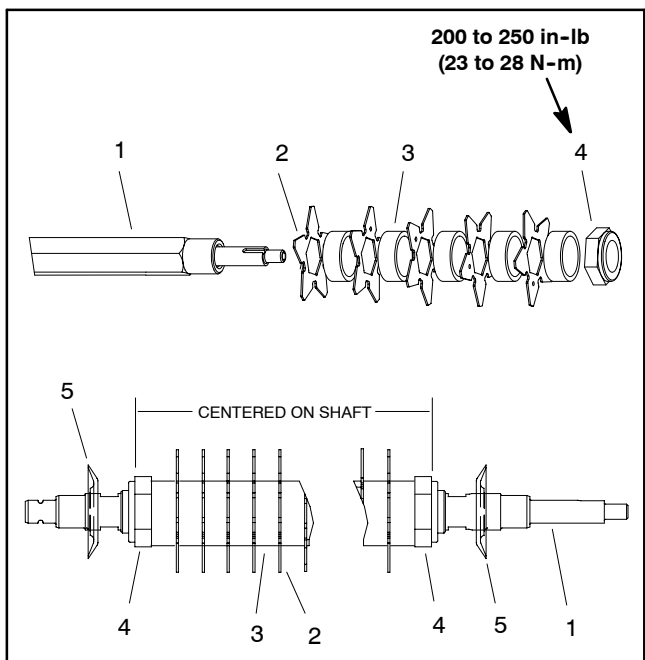

Figure 12
Disassembly (Fig. 12)
5. Remove lock nut from either end of the shaft (Fig. 12).
Assembly (Fig. 12)